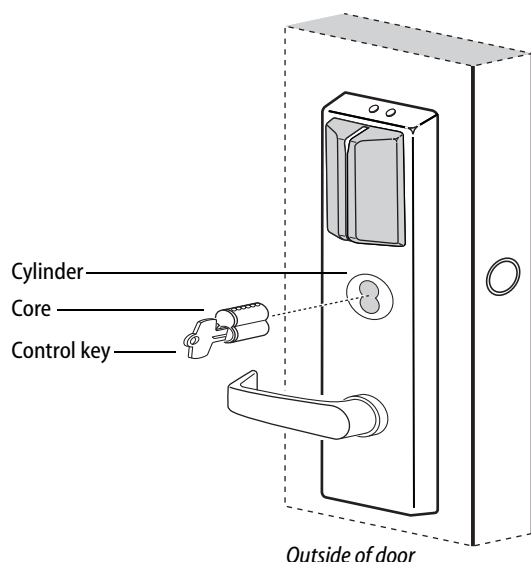

Figure 27 Installing the core
- 1 Insert the control key into the core and rotate the key 15 degrees to the right.
- 2 With the control key in the core, insert the core into the cylinder as shown in Figure 27.
- 3 Rotate the control key 15 degrees to the left and withdraw the key.